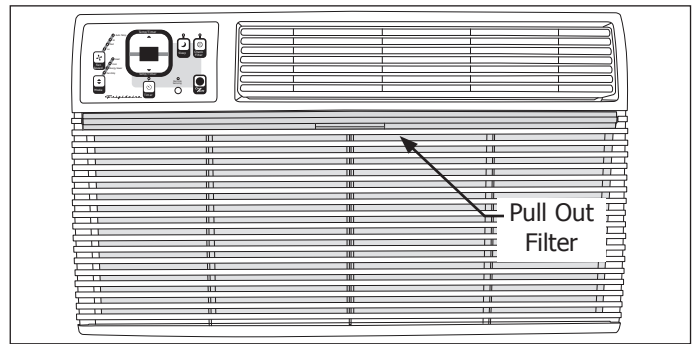

Figure 4-54.
2. Grab filter handle at top center of the front grille. Pull out, then upwards to remove filter. (See Figure 4-54)